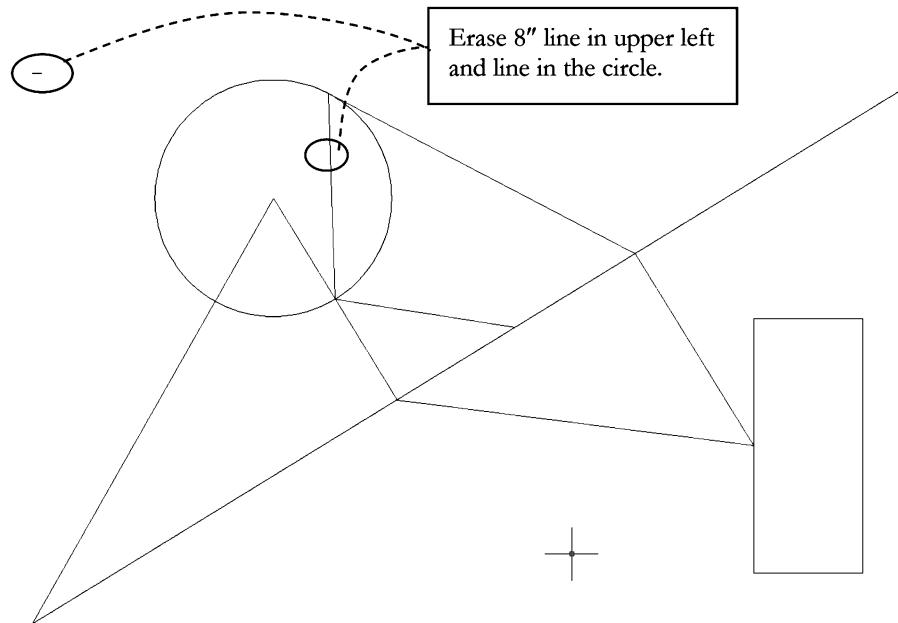

FIGURE 3-3.2 Lines to be erased
3. While holding the **Ctrl** key, select the lines identified in Figure 3-3.2.
TIP: See the section below Figure 3-3.2 on Selecting Entities.